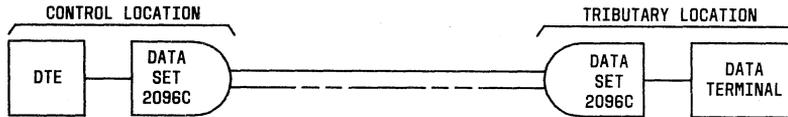
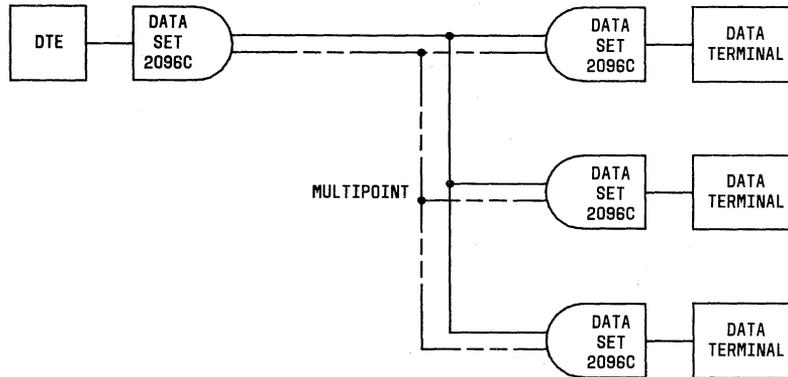

Fig. 29—Private Line Point-to-Point Circuit
Fig. 30—Private Line Multipoint Circuit
3.06 Figure 29 and 30 show some examples of basic DATAPHONE II service using DSs 2096C. Figure 29 shows two DS 2096Cs, one at the control location and the other at the tributary location. Figure 30 shows the DS 2096Cs in a multipoint circuit. The EIA interface port speed for all DS 2096Cs in a multipoint network must be the same (9600, 7200 or 4800 bps).